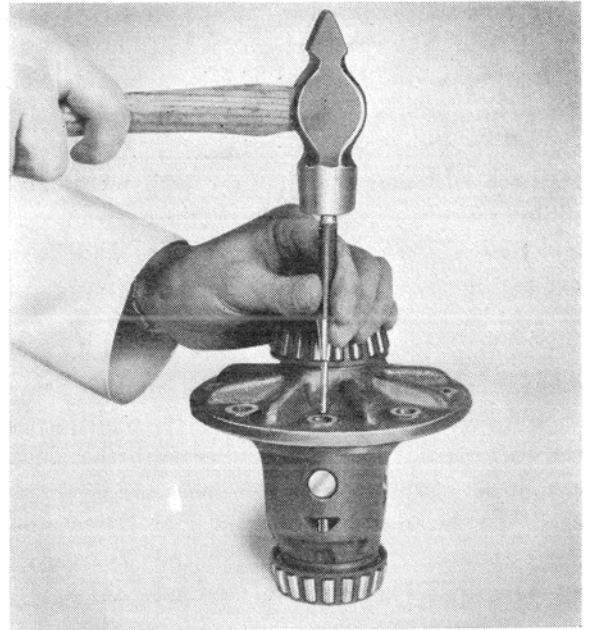

Fig. 13. Removing the lock pin.
1. Loosen the crown wheel bolts and remove the crown wheel (17).
2. Drive out the lock pin (30) for the differential pinion gear shaft (31), see fig. 13. Then drive out the shaft with a suitable drift and remove the spacer (32). The gears (38,41)